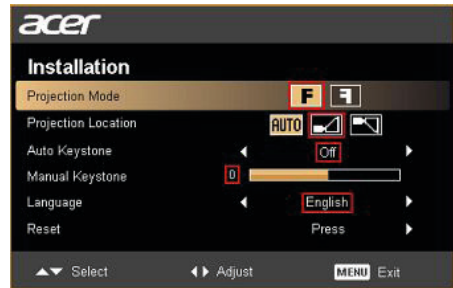

Figure 2.4: Projector settings
**Note:** You can restore the recommended settings in the projector's menu at any time as follows (See Figure 2.4.)